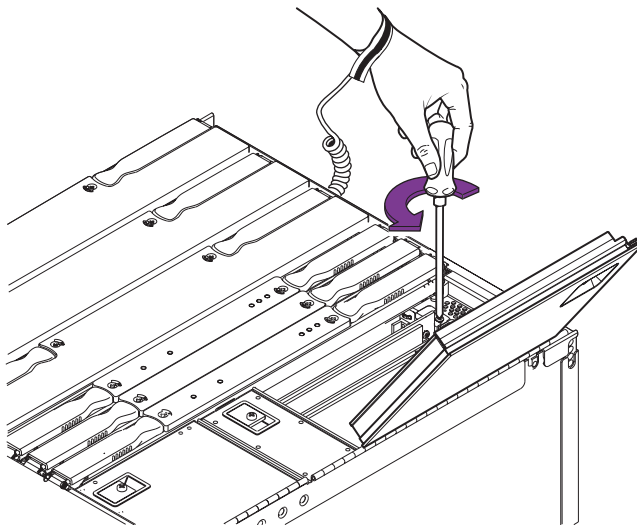
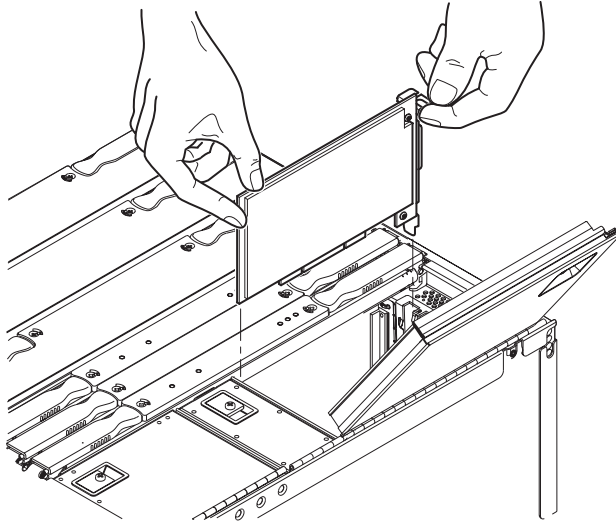

FIGURE 8-8 Removing the PCI Card Retaining Screw
FIGURE 8-9 Removing a PCI Card
9. Remove the retaining screw. Gently pull the card upwards until it is free of the IB_SSC receptacle (FIGURE 8-8 and FIGURE 8-9).